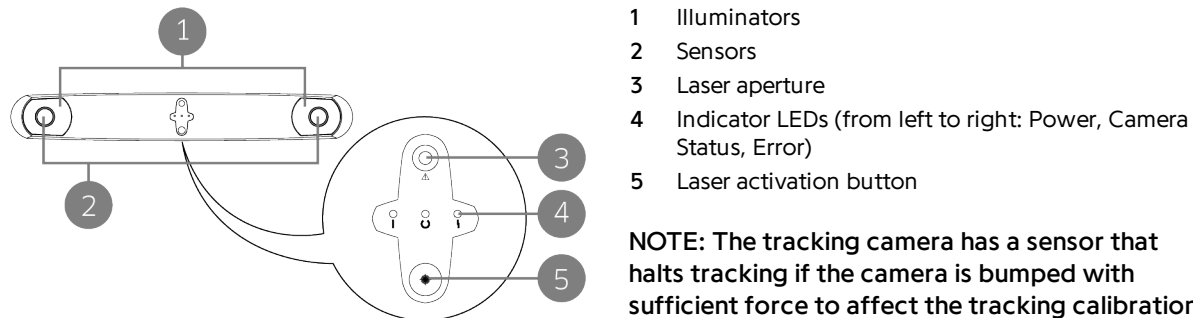

Figure 3 Tracking camera front view
The tracking camera includes a positioning laser that indicates the center of the camera's tracking volume. Use this feature to orient the tracking camera towards the surgical site so all tools and the cranial reference are in the field of view. The laser beam is emitted from an aperture on the front of the tracking camera (item 4 in Figure 3 above).
To use the positioning laser, press and hold the laser activation button on the front of the tracking camera (item 5 in Figure 3 above). The laser remains on only while the button is pressed.